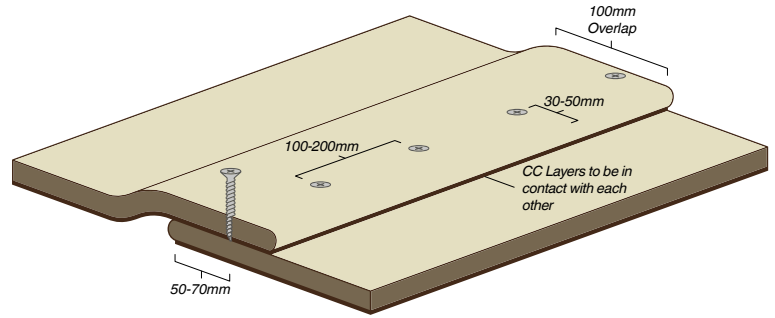

Figure 5.2 Standard screwed overlap joint
3. Installation of Screws: Once hydrated CC has a 1-2 hour working time in ambient temperatures of 10-22°C reduced in warmer climates). Screws must be applied before setting begins so the concrete within CC will set around the thread of the screws. The screws should be applied at 200mm spacing (maximum 100mm in warmer climates) and 30-50mm from the edge of the CC, see Figure 5.2.